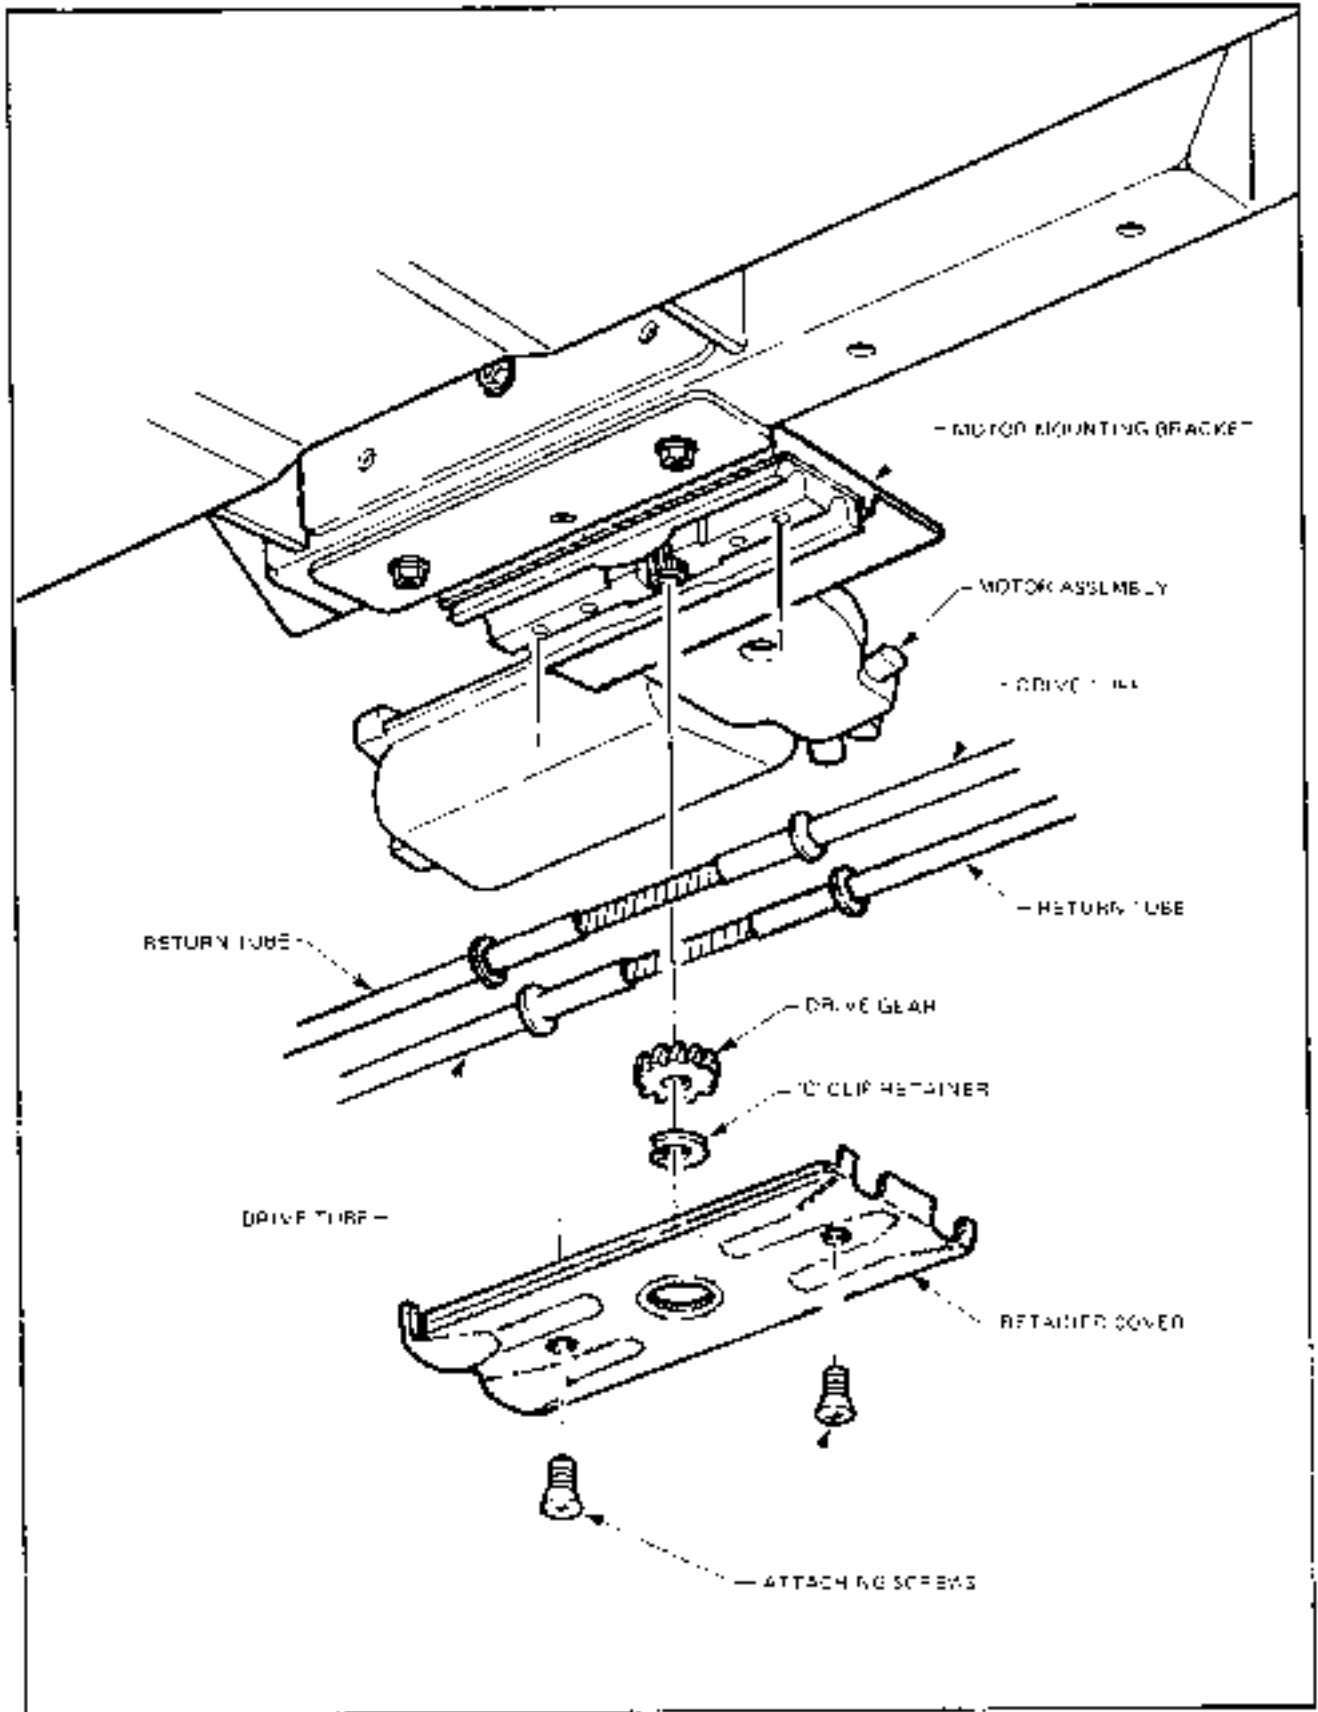

Figure 1A-76
4. Remove sliding panel as described in 8.4 Sunroof Sliding Glass Panel Remove and Reinstall (refer Fig. 1A-69).
5. Move trough rod and cable assemblies rearward of notch in track to slide front guide shoes rearward to notch, rotate and remove (refer Fig. 1A-77).